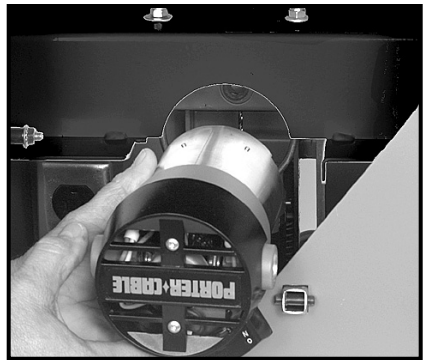

Fig. 13
2. Orient motor as shown in Fig. 13, and insert into clamp. Seat motor into mounting bracket: the upper motor housing (A) Fig. 14, must touch the mounting bracket (B) Fig. 14.